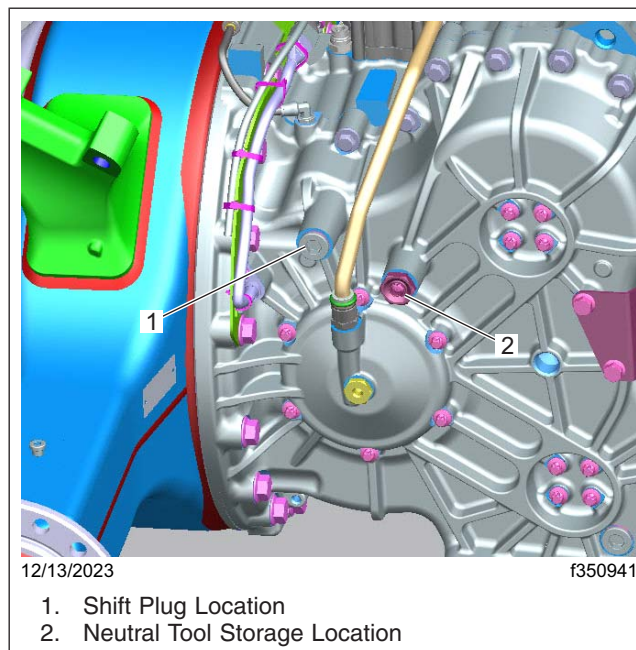

Fig. 12, Shift Plug and Neutral Tool
75. Install the new crush washer on the shift plug, and install the plug in the shift location. Tighten the tool 76 to 94 lbf·ft (103 to 127 N·m). See **Fig. 12**.